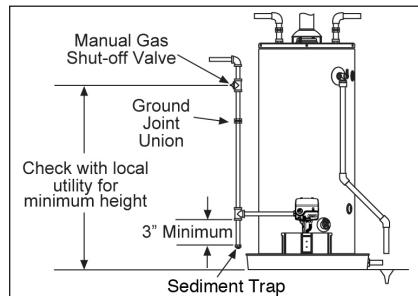

Figure 10 - Gas Piping
- Install a Sediment Trap as shown in Figure 10 (Gas Piping). The Sediment Trap must be no less than three inches long for the accumulation of dirt, foreign material, and water droplets.